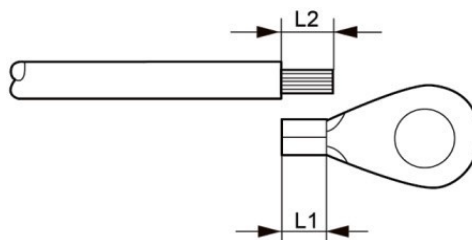

Figure 5.21 External Grounding Conductor Ring Terminal
- Strip ½ inch of insulation off the end of the ground cable (see Figure 5.21)